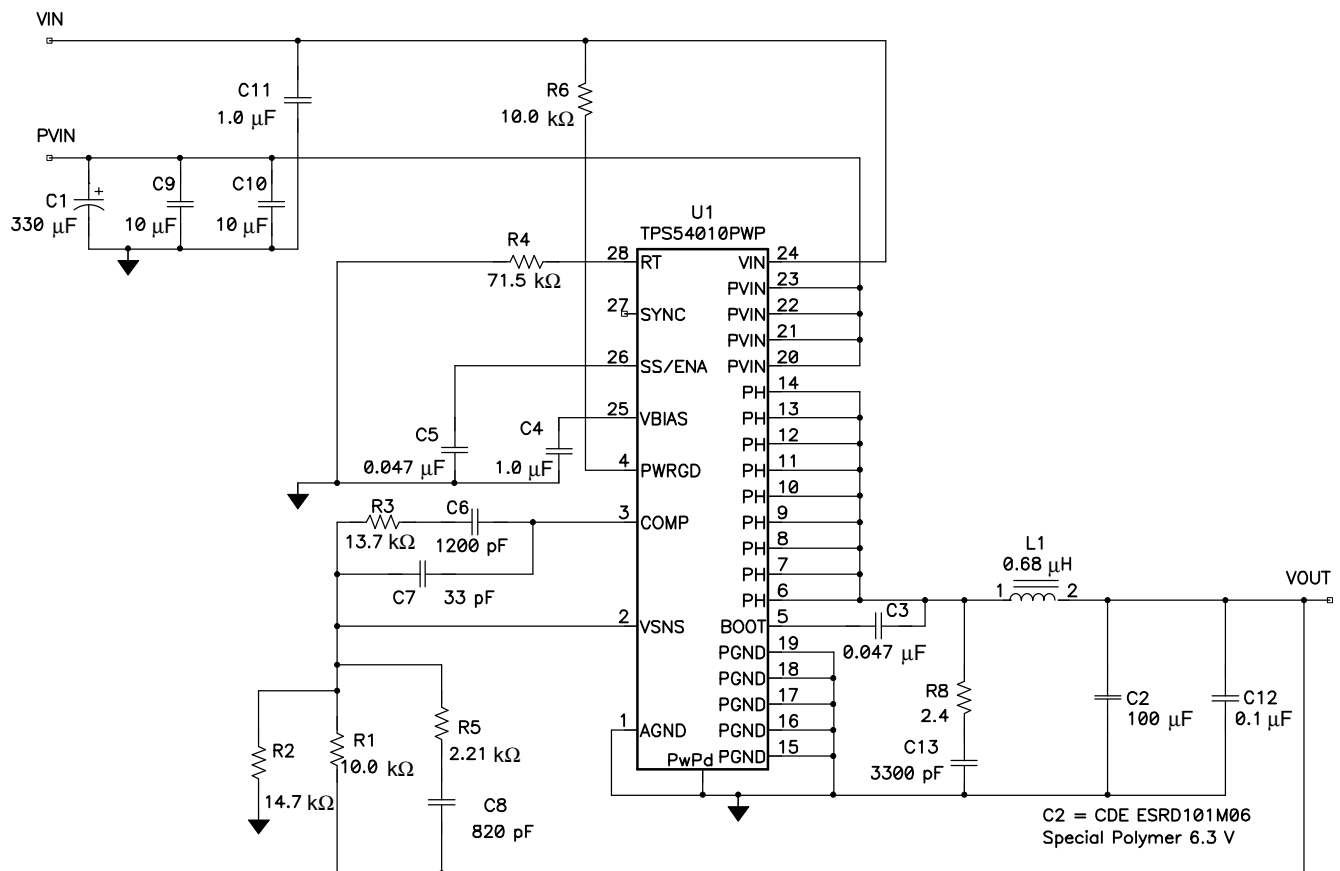

Figure 12. Application Circuit, 2.5 V to 1.5 V
- (1) Specified by design
- (2) Static resistive loads only
- (3) Specified by the circuit used in Figure 12
Figure 12 shows the schematic for a typical TPS54010 application. The TPS54010 can provide up to 14-A output current at a nominal output voltage of 1.5 V. Nominal input voltages are 2.5 V for PVIN and 3.3 V for VIN. For proper thermal performance, the exposed PowerPAD underneath the device must be soldered down to the printed-circuit board.